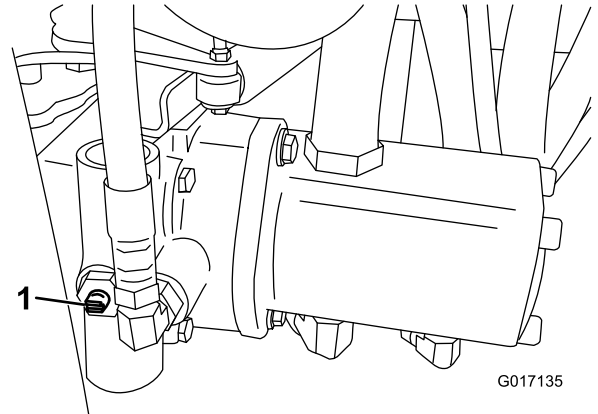

Figure 27
1. Locate the bypass valve on the pump and rotate it so that the slot is vertical (Figure 27).
2. Before starting the engine, close the bypass valve by rotating it so that the slot is horizontal (Figure 27). Do not start the engine when the valve is open.